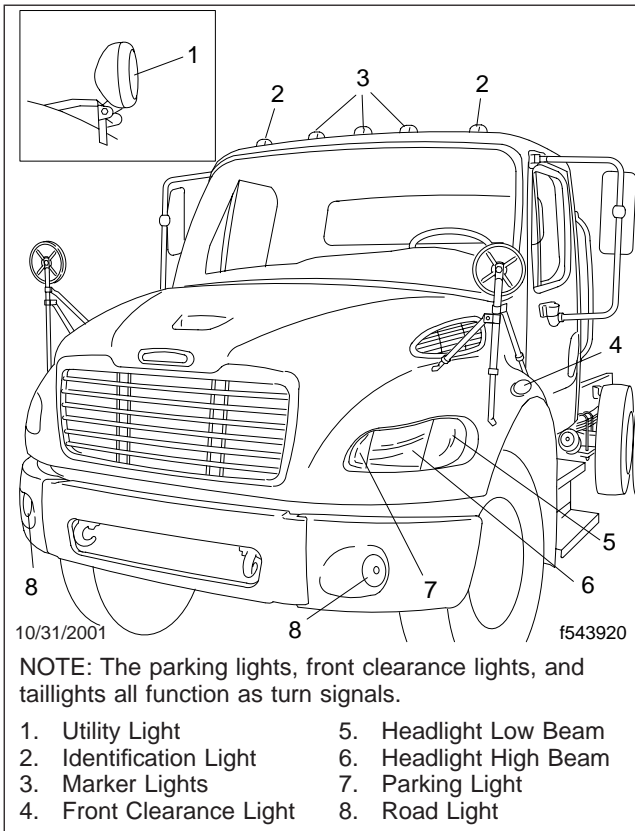

Fig. 11.7, Exterior Lights
11. Check the operation of all exterior lights. See Fig. 11.7.